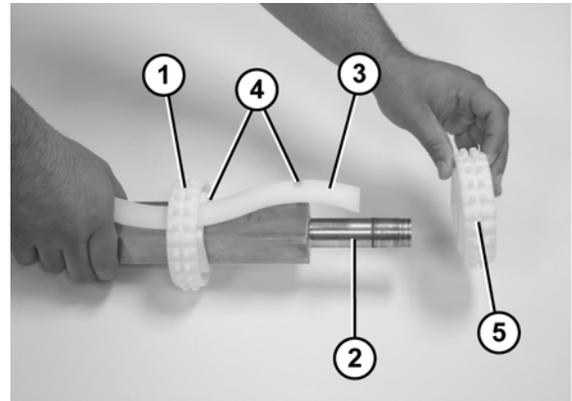
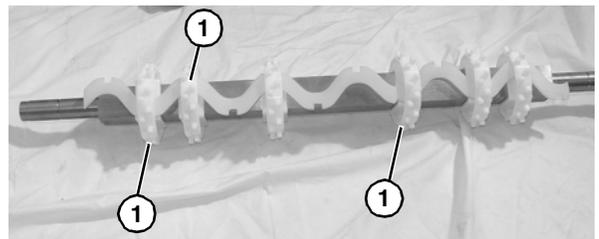

Figure 68
Figure 69
- Slide the first sprocket (Figure 68, item 1) onto the drive spindle (Figure 68, item 2).
- Insert the sprocket alignment bar (Figure 68, item 3) into the first sprocket and align the sprocket with the notch (Figure 68, item 4) in the sprocket alignment bar.
- Slide the remaining sprockets (Figure 68, item 5) onto drive spindle and align each sprocket with the notches (Figure 68, item 4) in the sprocket alignment bar. Be sure that at least three sprockets (Figure 69, item 1) are positioned such that they are on alternate opposing locations on the alignment bar.